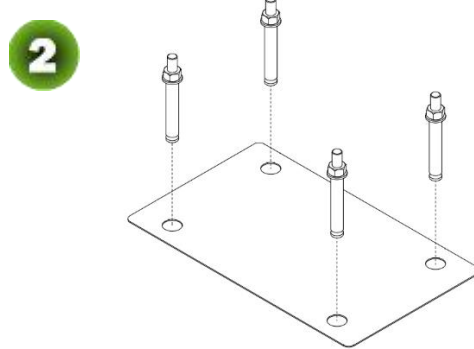

Figure 2-3B
- 2) Drive four expansion bolts into the Bolt Holes Dimensioning, as shown in Figure 2-3B.